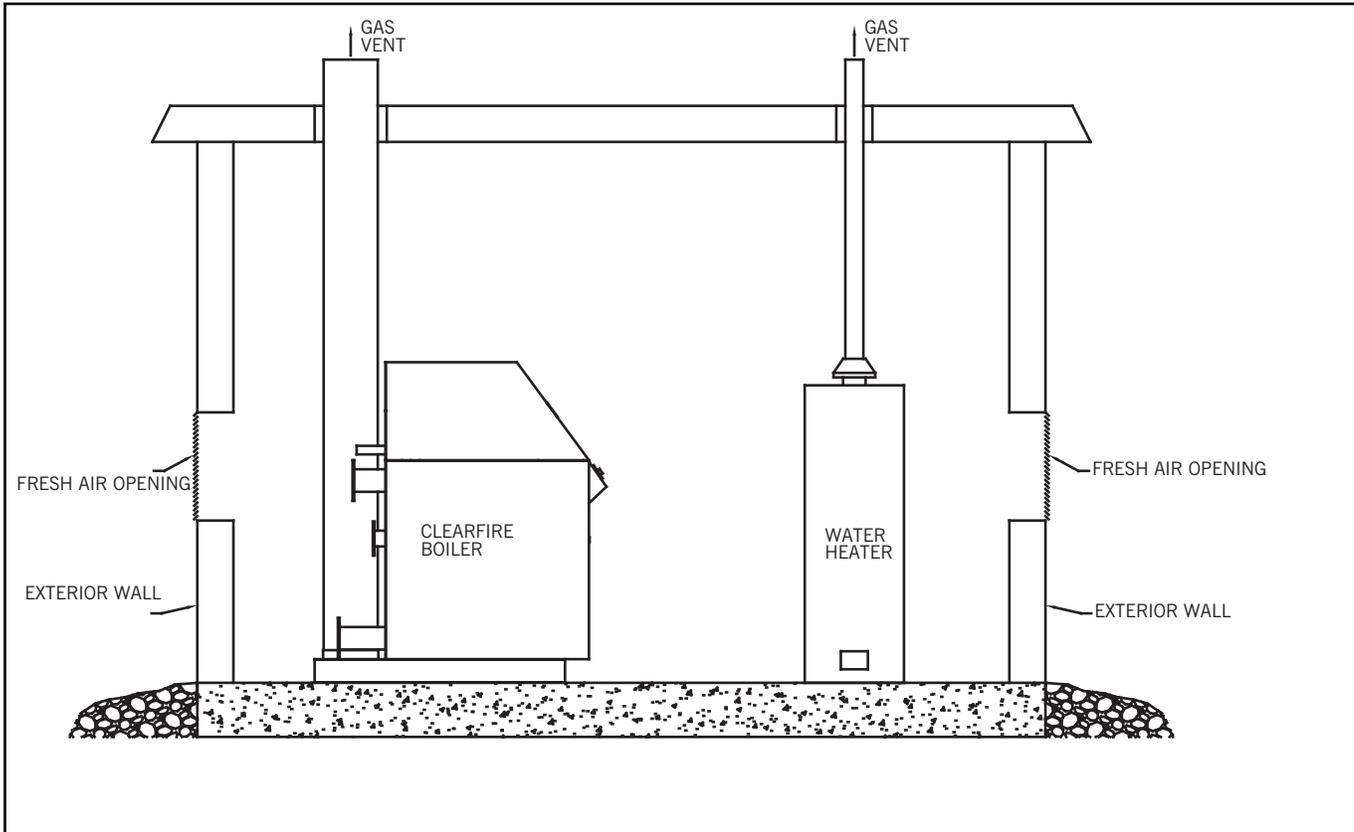

Figure 3-8. Two Opening Engineered Method
- A. Two permanent air supply openings in the outer walls of the boiler room are recommended. Locate one at each end of the boiler room, preferably below a height of 7 feet. This allows air to sweep the length of the boiler. See **Figure 3-8**.